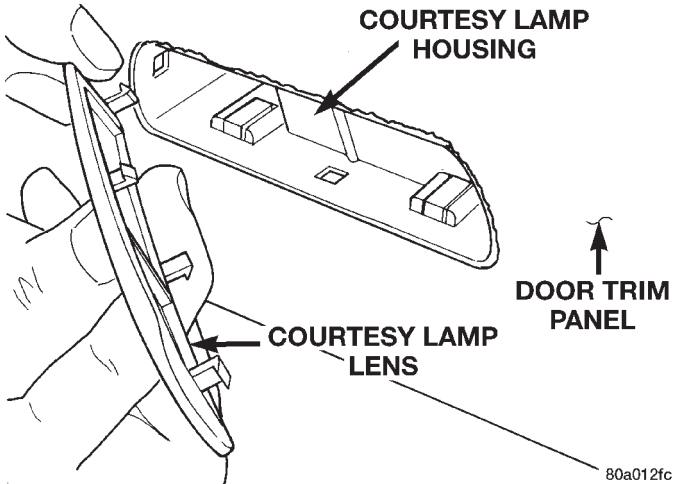

Fig. 7 Courtesy Lamp Lens
- (1) Using a small, flat bladed tool inserted into rear edge of door courtesy lamp lens, remove lens (Fig. 7).